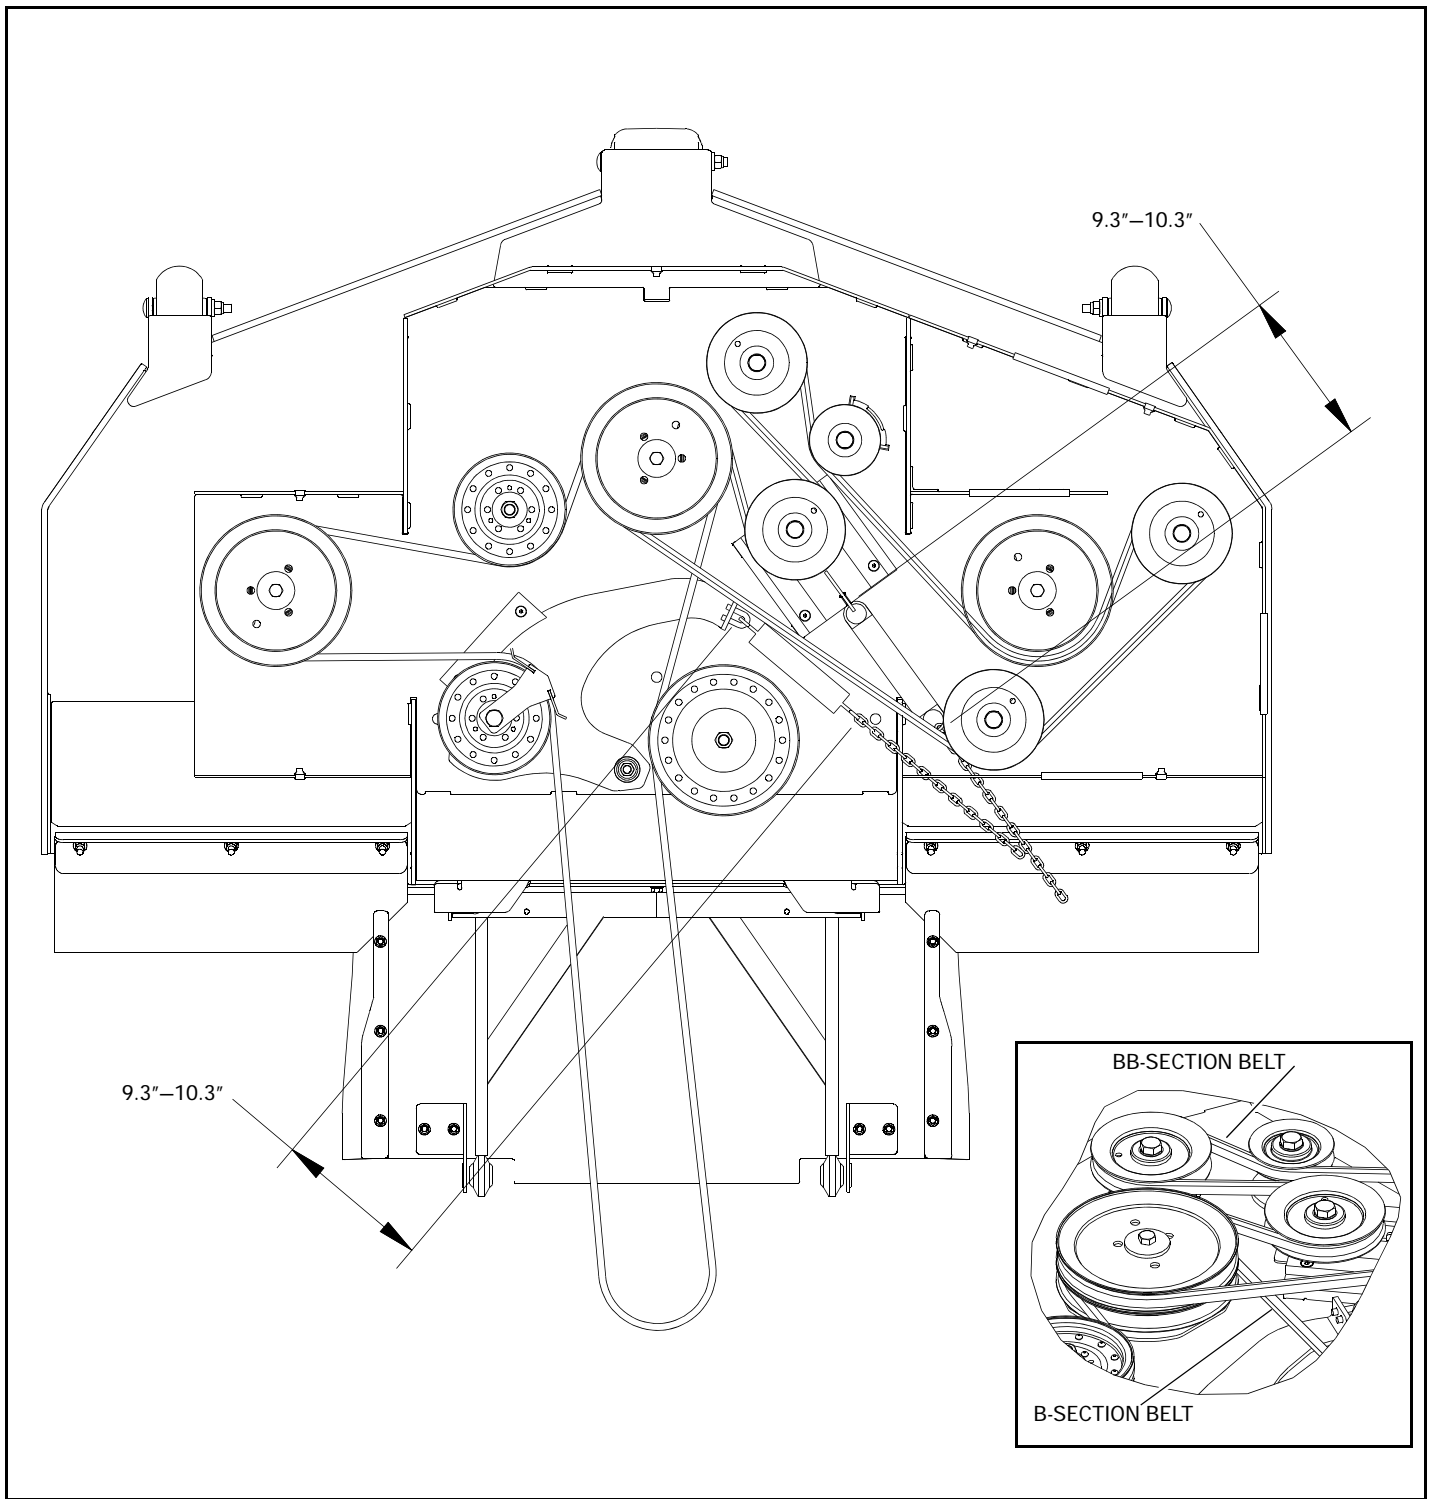

FIG. 2
13. Route the belts as shown in Fig. 2 inset with the BB-section belt using the top of the double pulley and the B-section belt using the bottom pulley. Fig. 2
15. Be sure the spring length is correct (between 9.3" and 10.3" for a new belt) as measured from the outside of one hook to the outside of the opposite hook. Fig. 2